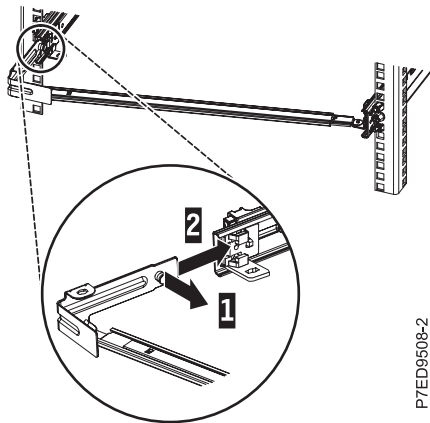

Figure 14. Extending the pin and installing the bracket into the slide rail
3. To attach the other side of the support arm to the rear of the slide rail, pull the pin out (1), and then slide the bracket (2) into the left slide rail, as shown in Figure 14.